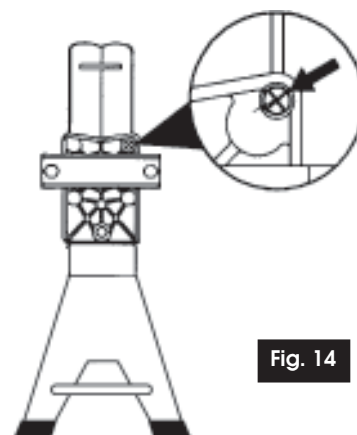

Fig. 14
- Loosen the air bleed screw 3 or 4 full turns (Fig. 14), be sure to re-tighten the screw when finished using the machine.